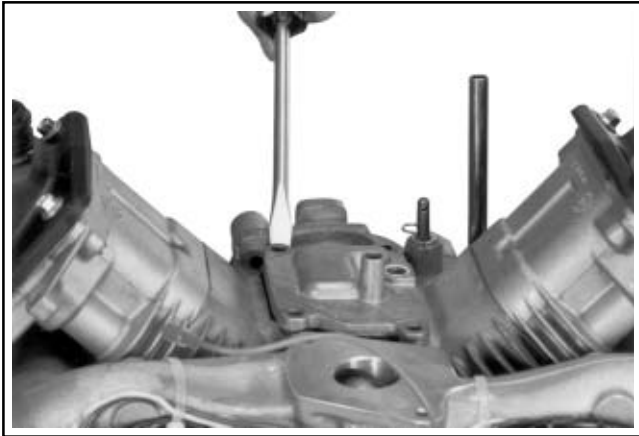

Figure 9-36. Breaking Breather Cover Seal.
4. Pry under the protruding edge of the breather cover with a screwdriver to break the RTV or gasket seal. See Figure 9-36. Do not pry on the sealing surfaces as it could cause damage resulting in leaks. Most engines use a formed gasket rather than RTV sealant.